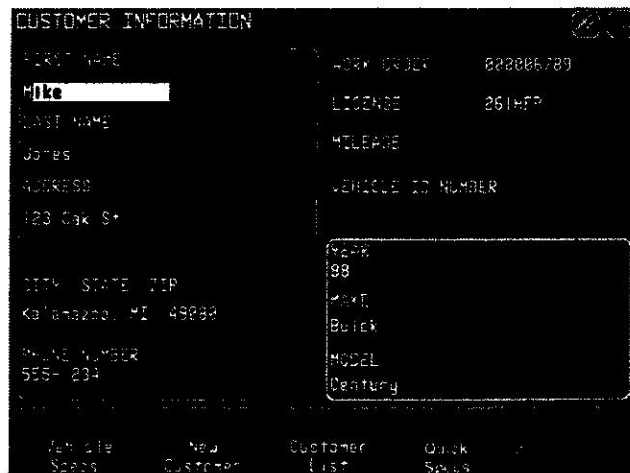

Figure 1-14
2. The "Customer Information" screen appears (see Figure 1-14).
1. From the "Customer List" screen, press [F2] or move the cursor to a blank line in the customer list and press [ENTER]. The "Customer Information" screen appears. It is a similar screen to Figure 1-14, except with blank data fields.